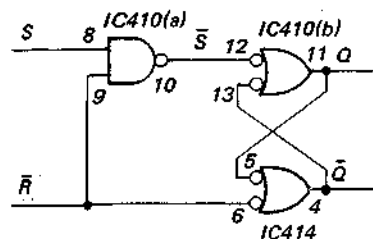

Fig. 2-10
2. Fig. 2-10 shows a Set-reset type of FF basically constituted by IC410(b) and IC414 (both set and reset are zero priority inputs) with the gate IC410(a) added for determining the priority of the inputs.